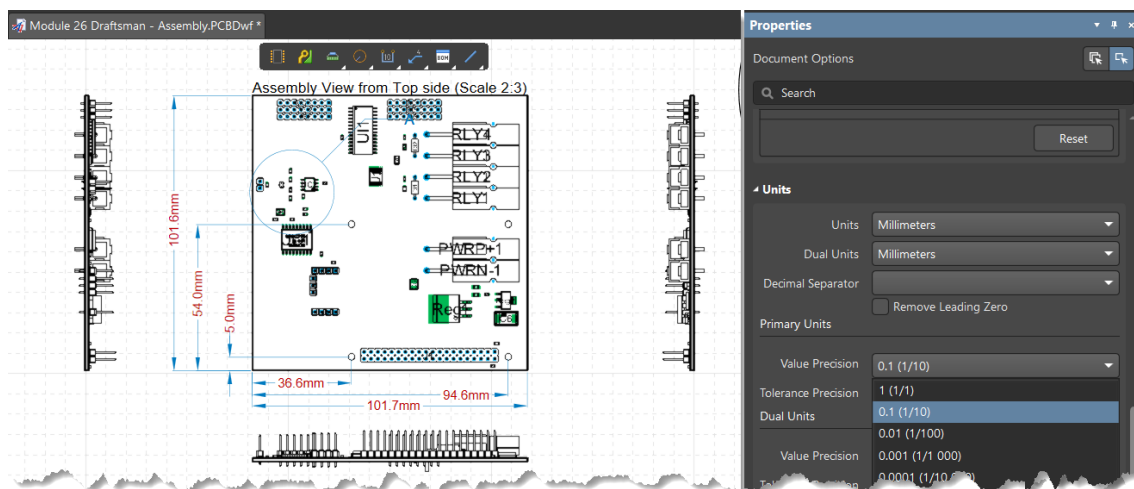

Figure 6. Units for Draftsman Document
- The pane *Units* allows you to change the **Unit** and the **Precision**, as seen at Figure 6.